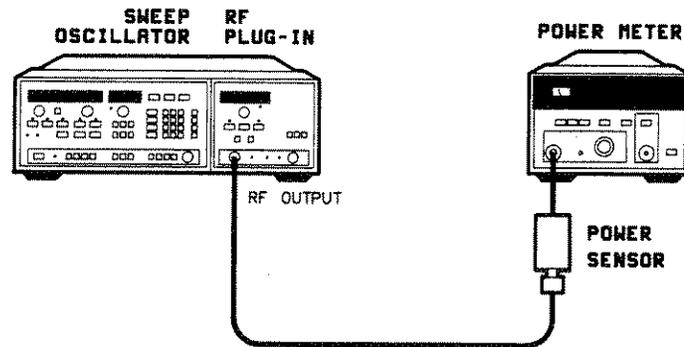

Figure 4-11. Step Attenuator Accuracy Test Setup
2. Connect the equipment as shown in figure 4-11.